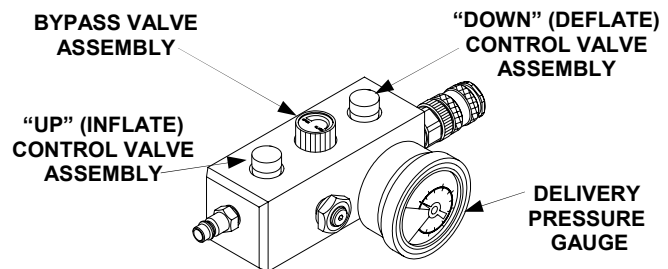

Figure 2-7. Single Push-button Safety Relief and Control valve with Bypass Controls and Gauges
The only controls on the single push-button safety relief and control valve with bypass (figure 2-7) are the "UP" (inflate) and "DOWN" (deflate) control valve assemblies, and the bypass control valve assembly. The "UP" and "DOWN" control valve assemblies are either independently opened ("UP") to permit regulated air to inflate the lift bag or closed ("DOWN") to relieve system air to deflate the lift bag and prevent regulated air from pressurizing the system. The bypass is independently opened to permit continuous regulated air to inflate the lift bag or closed to allow the relief of system air to deflate the lift bag and prevent regulated air from pressurizing the system.
- e. **Single Push-button and Dual "Deadman" Safety Relief Control Valves (Figure 2-7 and 2-8 Respectively).** A delivery pressure gauge is provided for each of the "UP"/"DOWN" control valve assembly(s), respective to the controller (single push-button or dual “deadman” safety relief and control valve); one therefore per each lift bag. Each gauge is marked in 20 psi increments from 0 psi to 200 psi and is scribed each 2 psi. The pressure gauge is also marked each 200 kPa from 0 to 1400 kPa and is scribed each 20 kPa.